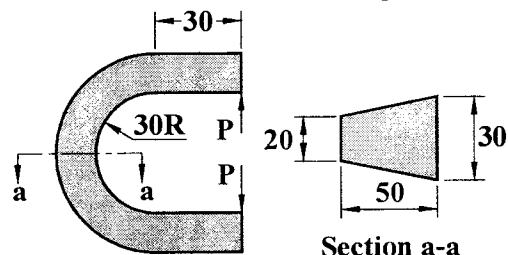

Fig. 3
5. (a) For the beam, loaded as shown in Fig. 3, determine the maximum tensile stress in section a-a. Consider $P = 10\text{kN}$. All dimensions in Fig. 3 are in mm. (5)